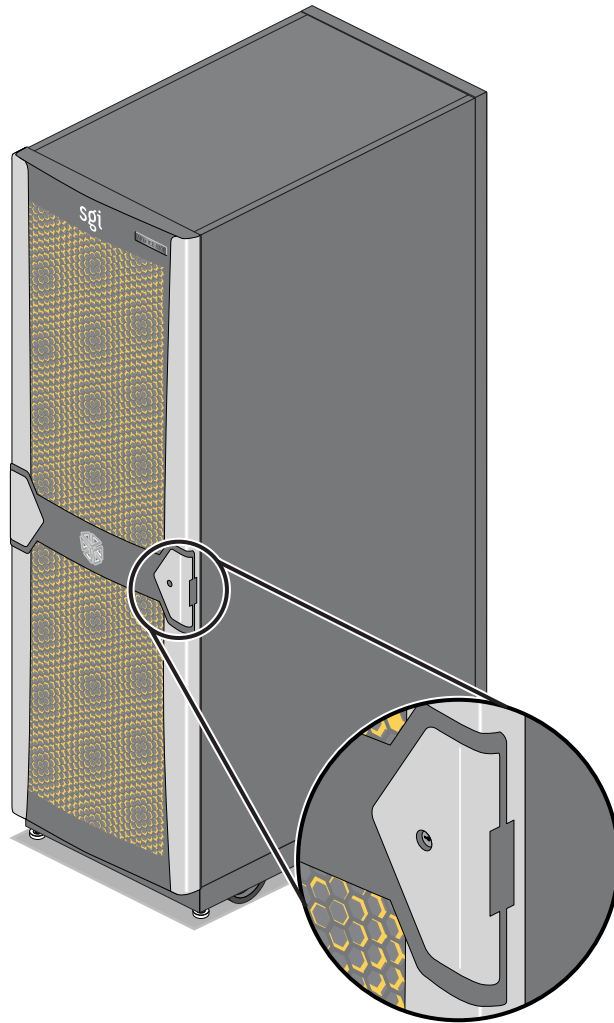

Figure 4-2 Tall (42U) Altix Rack and Front Lock
At the time this document was published only the tall (42U) Altix ICE rack (shown in Figure 4-2) was approved for use with the ICE systems.
- **Front and rear door.** The front door is opened by grasping the wide end of the triangle-shaped door piece and pulling outward. It uses a key lock for security purposes that should open all the front doors in a multi-rack system (see Figure 4-2 on page 40). Note that the front door and rear door locks are keyed differently. The optional water-chilled rear door does not use a lock.